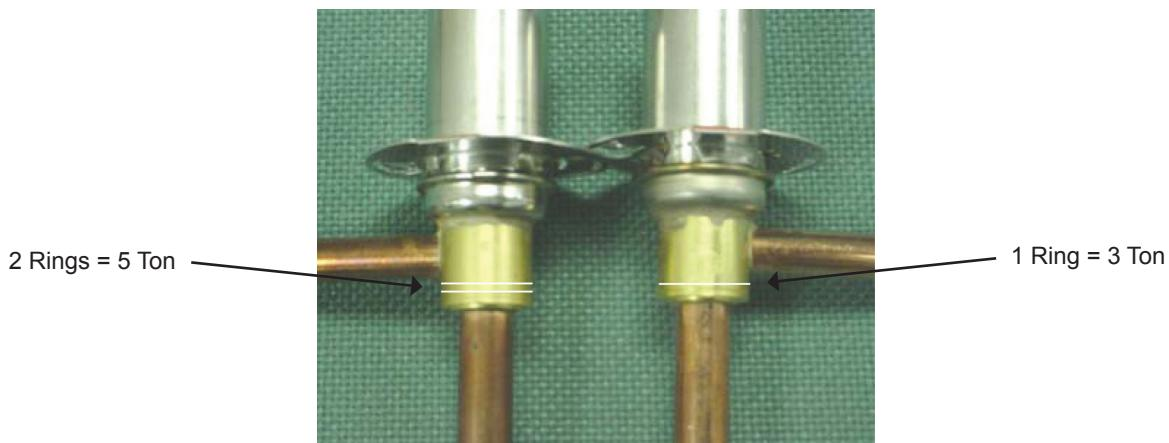

Fig. 3: Ring Engravings
- They can also be distinguished by rings engraved around the bottom housing of the valve (see Fig. 3 below): 1 ring indicates a 3-ton valve and 2 rings indicate a 5-ton valve as shown below (the 14B valve does not contain rings on the housing).